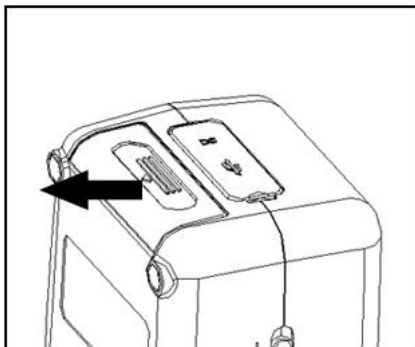

Figure 2. Remove the battery cover
1. First check and confirm if the Switch is on Out (O), then following the arrow direction as shown on Figure 2, take out the battery cover by pressing down.